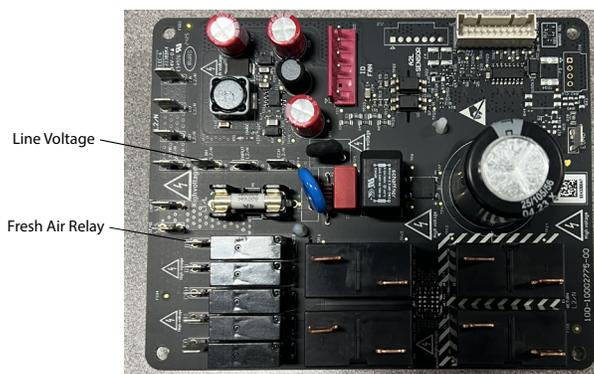

Figure 445 (Relay PCB)
dampener motor(s) via the Relay PCB (Variable board). See figures 445 and 446. 265v units with a double freshair box configuration may have an additional relay installed. See figure 401.
1. Check for line voltage across the line voltage terminal and relay terminal of the Relay PCB. See Figure 445.